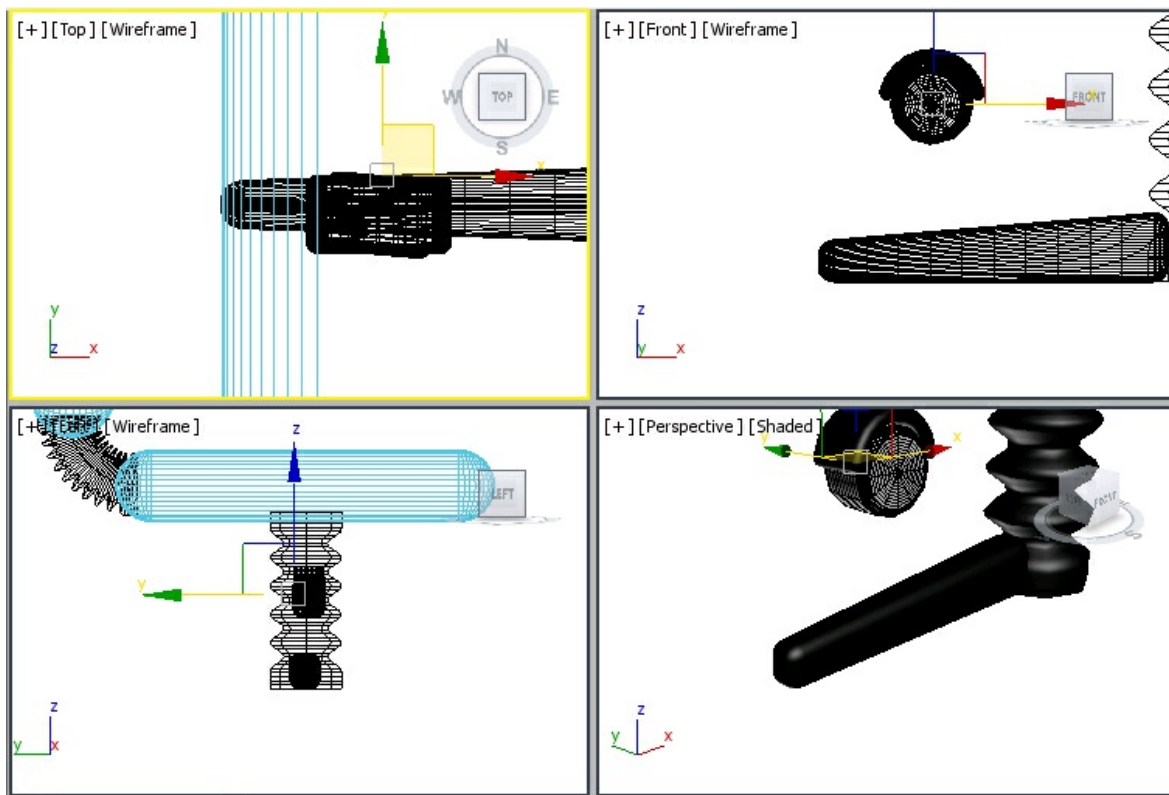

Figure 3-42 Alignment of cylinder01 with box01 in viewports
14. Align *cylinder01* with *box01* in viewports using the **Select and Rotate** and **Select and Move** tools, refer to Figure 3-42.